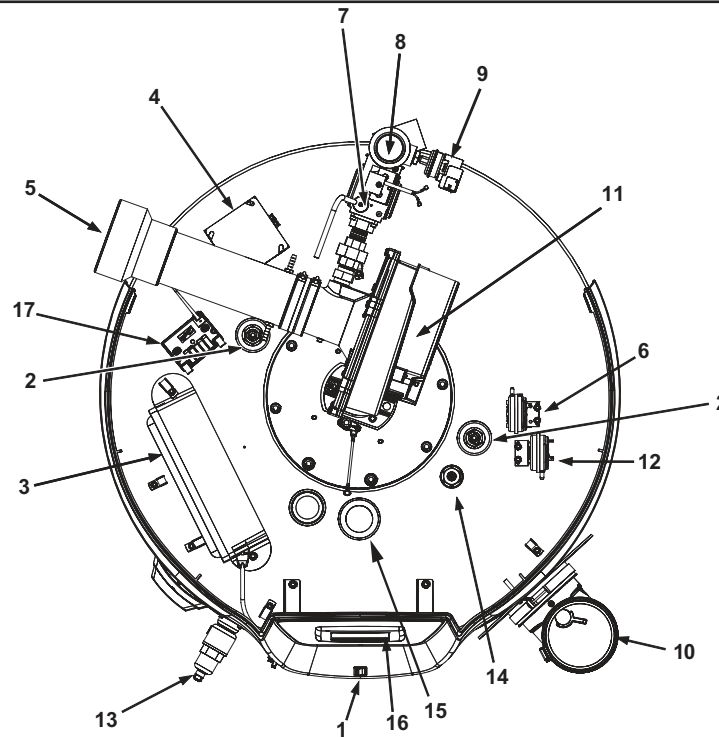

Figure 3. Top View
2. CCB enclosure. See **Figure 3** (page 8) for description.
6. Low Gas Pressure switch. See description under **Figure 3** (page 8). See **Table 4** (page 10) and the Gas Pressure Requirements on page 10.